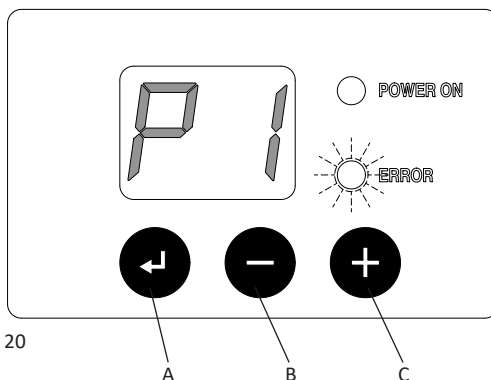

Fig. 20
- 2 P1 will be displayed and the red Error light will slowly flash. See Fig. 20.